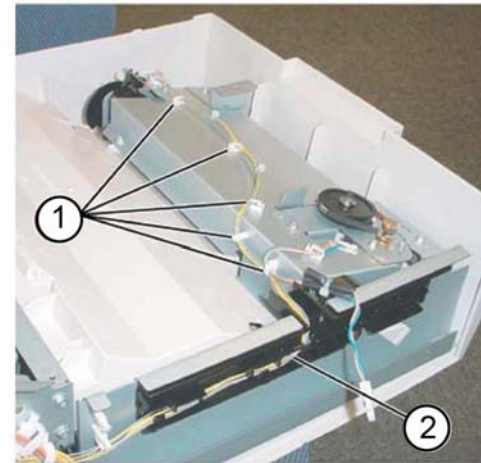

Figure 2 Harness release
8. Release the wiring, Figure 2:
- a. Release five clamps (1).
- b. Release the harness (2) from the retainers.